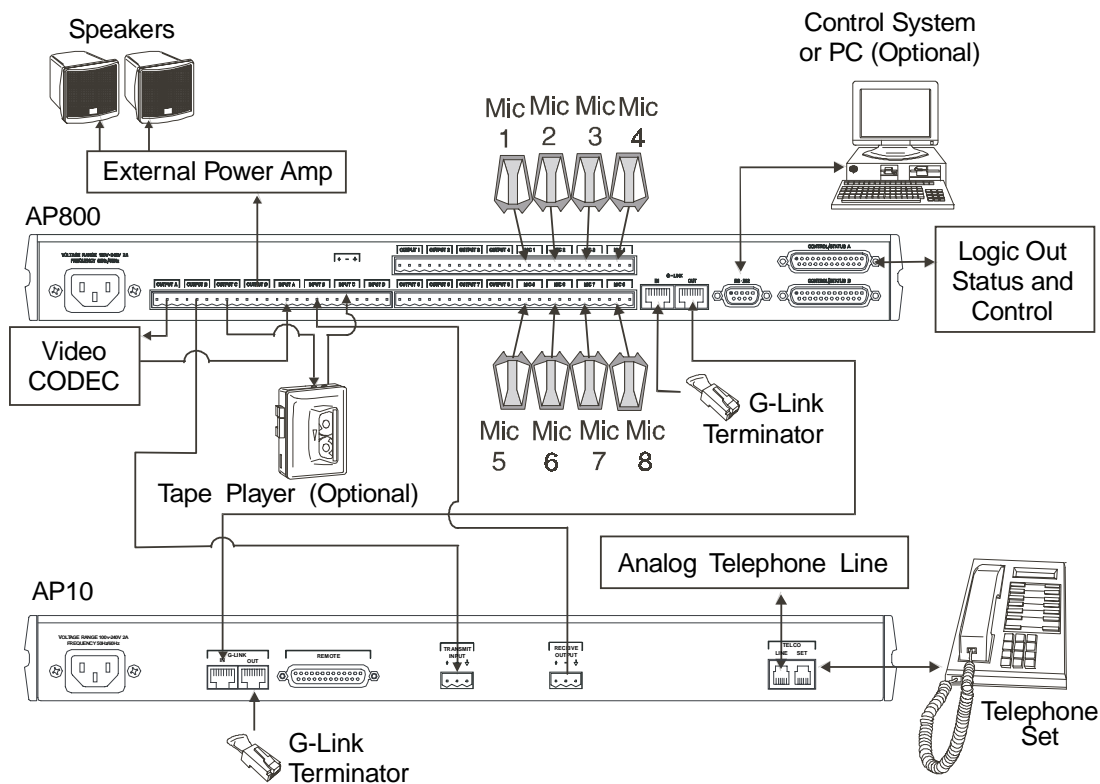

Figure 4. System block diagram
The following block diagram (see Figure 4, below) shows the AP10 when installation is complete in an Audio Perfect system.
- **Receive Output** Audio from the Receive Output [6] (telephone participant audio) is passed to the AP800 for further routing and distribution. See Figure 4 on page 7.